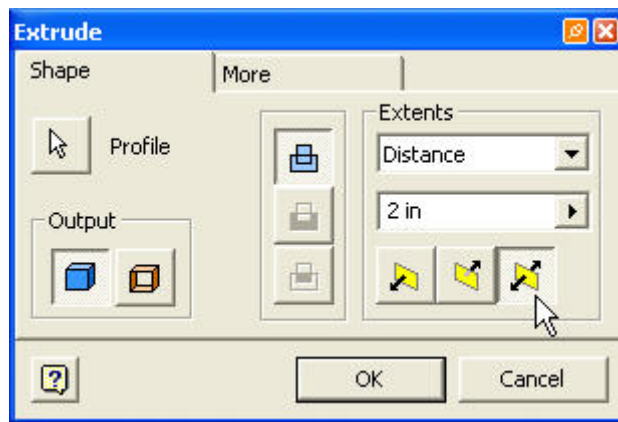

Figure 8
6. The profile should already be highlighted in your work space. In the area highlighted under the Extents category type in a depth of 2 in as shown in Figure 8.